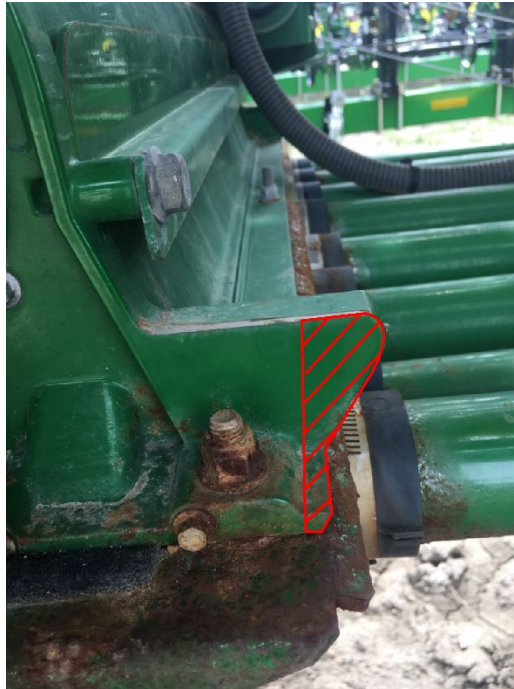

Figure 2: Cutting meter housing mounting tabs
5. If you have a model year 2014 or newer air cart, cut off part of the mounting tabs on the rear of the meter housing using a metal cutting tool, such as a grinder with cut-off wheel or Sawzall, as shown in the hashed area in Figure 2. This allows the Engage® Zone Control unit to be mounted flush with the meter housing.